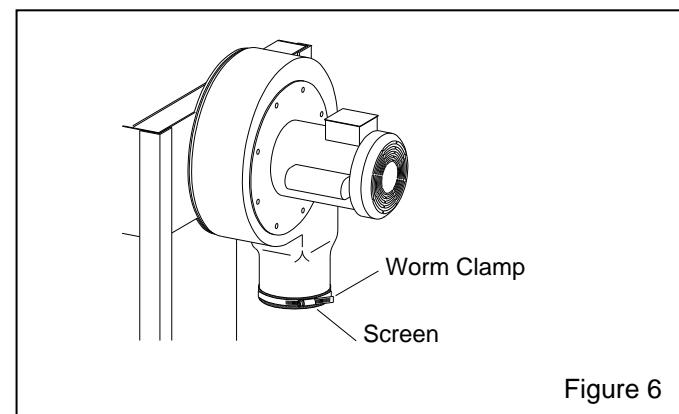

Figure 6
2.5. Exhauster Outlet Screen – Figure 6